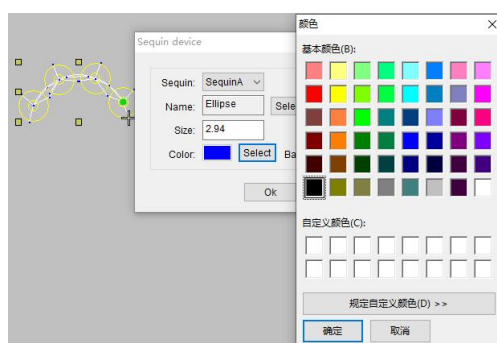

Figure 2
5. In the sequin device dialog box, modify the sequin size, click "Select" to appear in the color dialog box, select the desired color, and click OK (as shown in Figure 2).